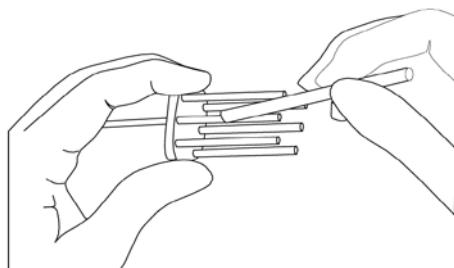

Figure F.1.3c: Re-lubricating 125 - 12.5  $\mu$ l Pipettes
- 125  $\mu$ l, 30  $\mu$ l, 12.5  $\mu$ l Pipettes: Spread the lubricant directly onto the pistons, approximately 0.5 inches (approx. 1.3 cm) from the bottom of each piston (see Figure F.1.3c).